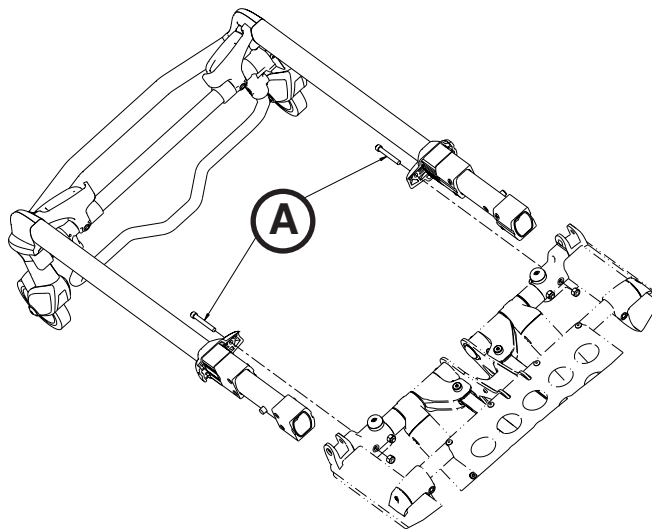

Figure 73
2. Using a 7/16" combination wrench and a 3/16" hex wrench, remove the two screws (A) that secure the cap bearings to the base litter interface bracket (one on each side) (Figure 73).